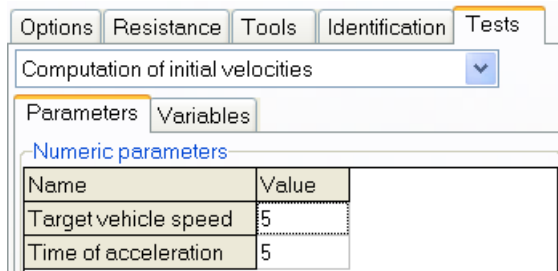

Fig. 54 Test parameters
1) Select the corresponding type of the test; assign the target speed and time interval for acceleration, Fig. 54.